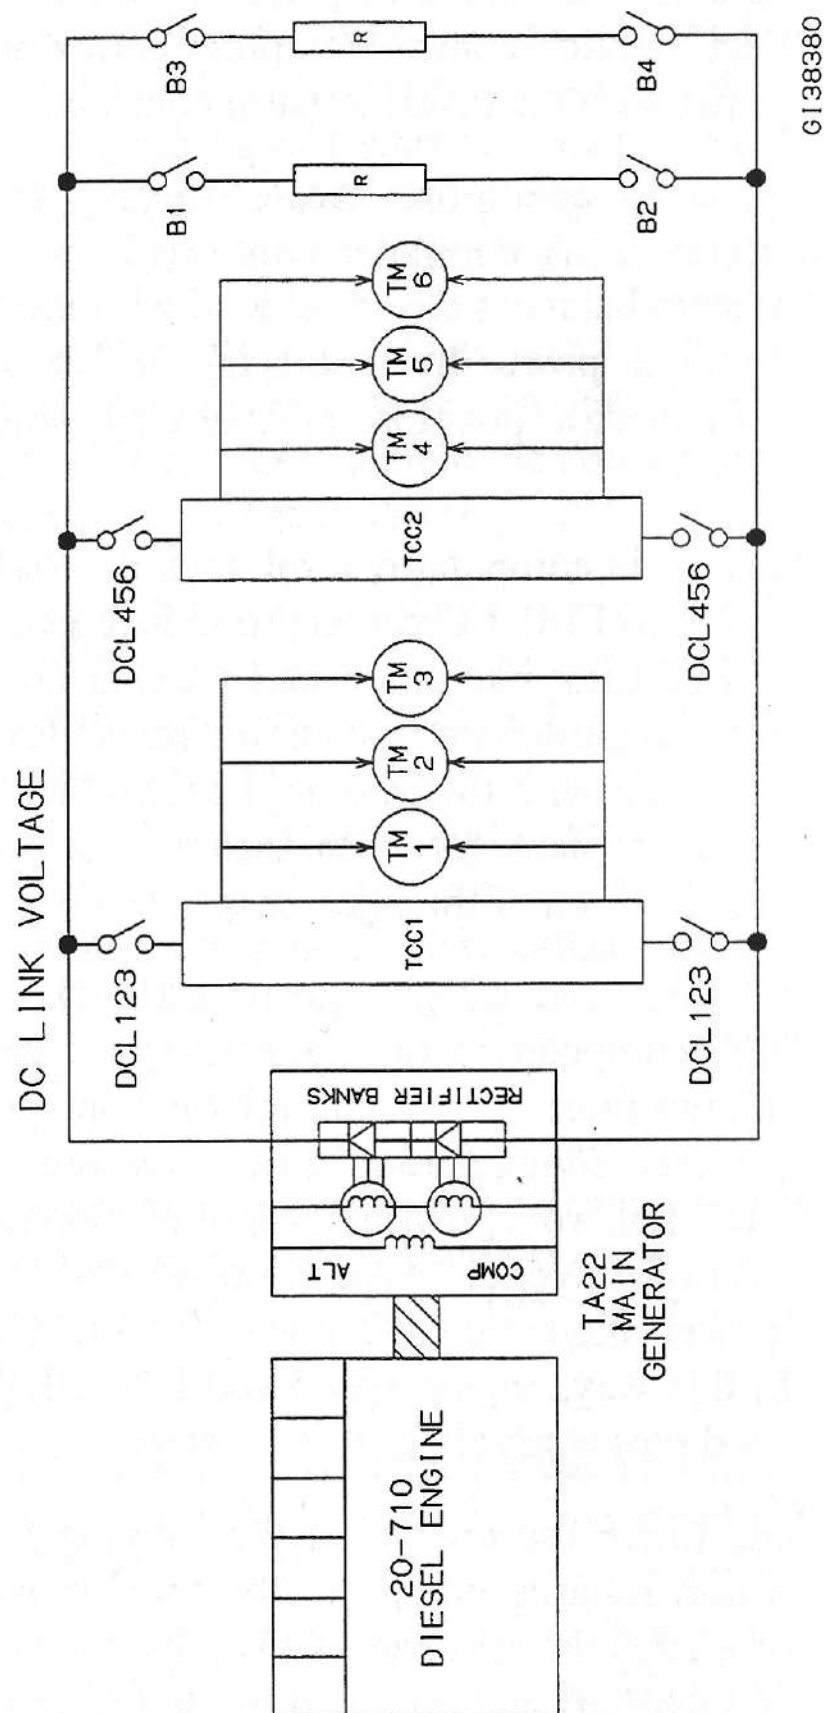

Figure 1-1. Power Distribution Diagram
DC power produced by the main generator is distributed, through a DC link, to DC to AC inverters in the Traction Control (TC) cabinet. Traction inverters supply 3-phase AC power to six traction motors based on inputs from the EM2000 locomotive computer. The EM2000 responds to input signals from operating controls and feedback signals from the power equipment. Refer to Figure 1-1, page 1-12.
The DC output from the main generator is called the DC link voltage and is applied to two traction inverters. DC link voltage varies with throttle position from 600 VDC at IDLE to 2600 VDC at TH8. Refer to Figure 1-1, page 1-12.